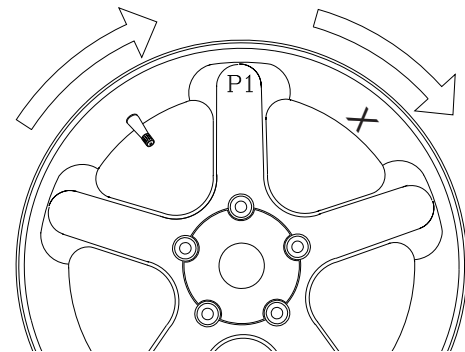

Figure 34
6. The display will read “**SPO 1** “. Locate the first spoke nearest to top dead center and rotate the wheel so that spoke is at top dead center. See Figure 34. Press **F** to store first position.